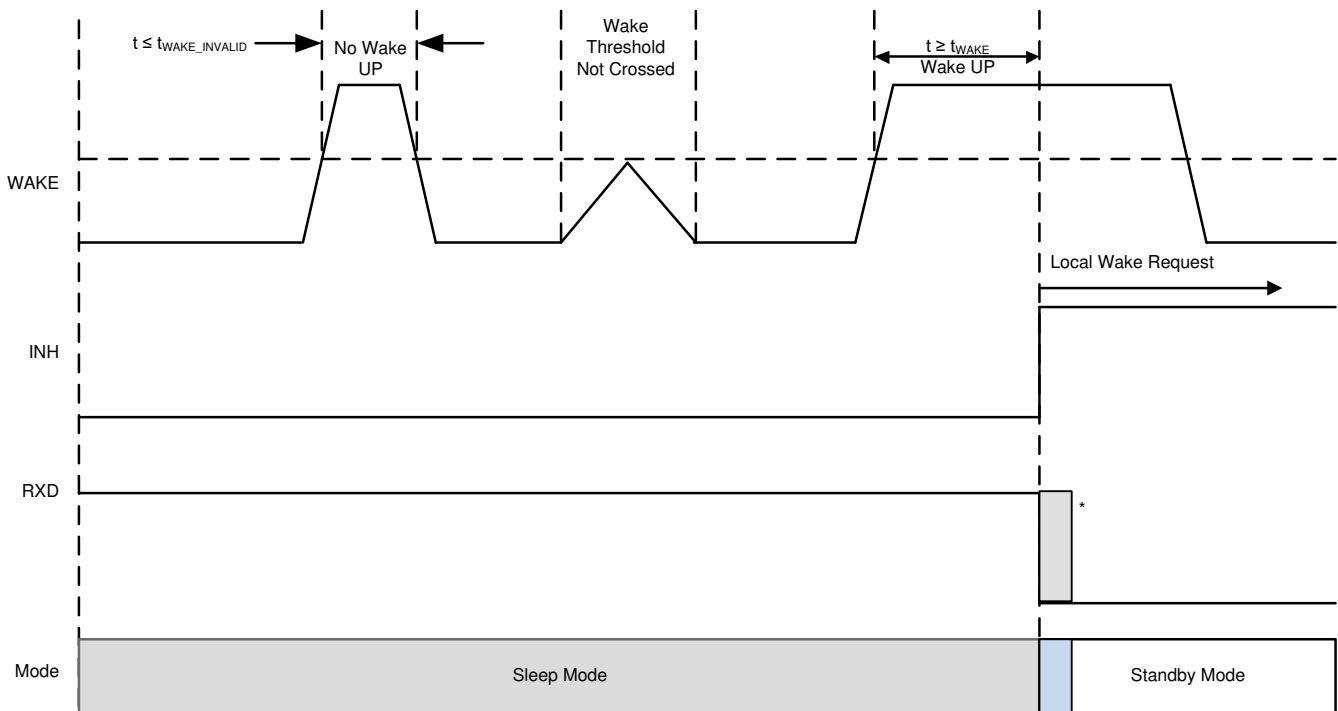
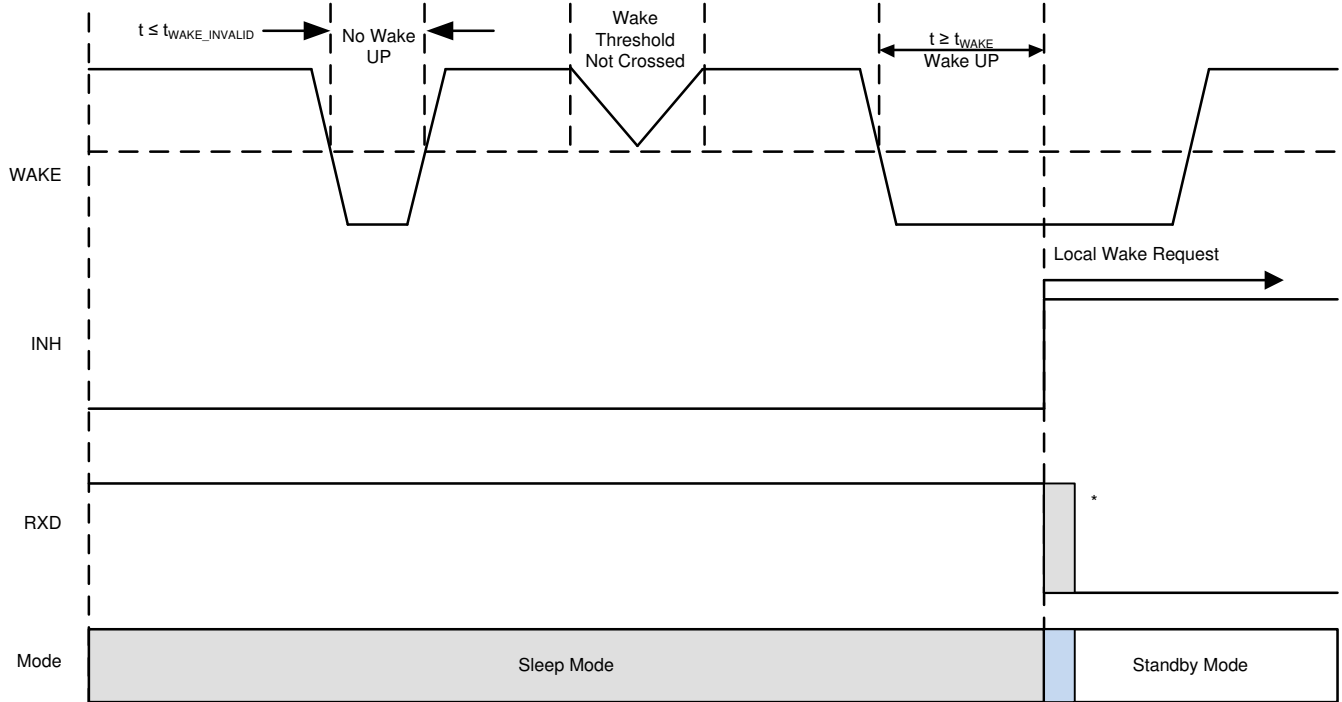

Figure 10-14. Local Wake Up – Rising Edge
Figure 10-15. Local Wake Up – Falling Edge
The WAKE terminal defaults to bi-directional input but can be configured for rising edge and falling edge transitions, see Figure 10-14 and Figure 10-15, by using WAKE_CONFIG register 11h[7:6]. Once the device enters sleep mode the WAKE terminal voltage level needs to be at either a low state or high state for t_{WAKE} before a state transition for a WAKE input can be determined.
- Figure 10-14 and Figure 10-15 provide examples of a rising or falling edge WAKE input. t_{WAKE} is based upon the time it takes from a valid WUP to INH turning on. RXD will be pulled low once $V_{IO} > UV_{IO}$ and $V_{CC} > UV_{CC}$ and standby mode is entered.